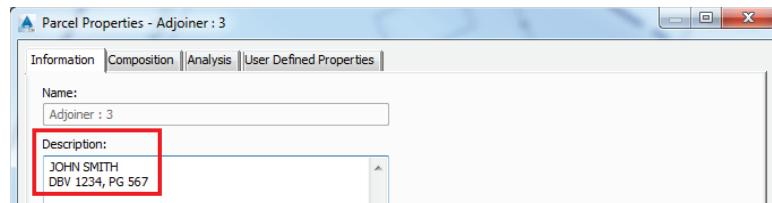

FIGURE 13.4 Entering a description for the Adjoinder : 3 parcel
4. Click the Information tab. In the Description box, enter JOHN SMITH on the first line and DBV 1234, PG 567 on the second line, as shown in Figure 13.4. Click OK, and press Esc to clear the selection.